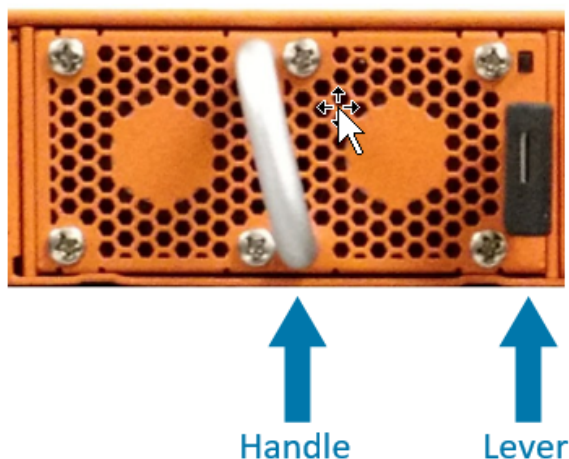

Figure 13 Replacing a Fan (GigaVUE TA Series-TA400 Shown)
1. Locate lever and handle as shown in Figure 13 Replacing a Fan \(GigaVUE TA Series-TA400 Shown\).